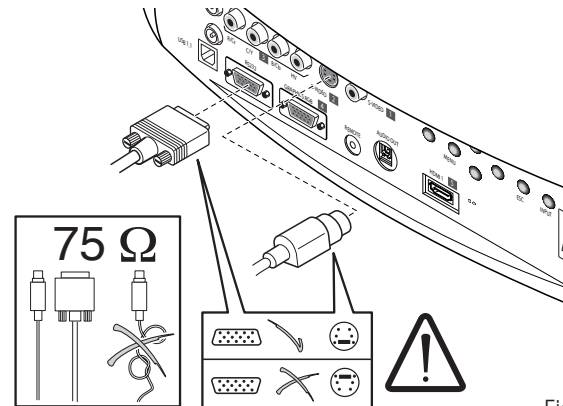

Fig. 15
- With exception of coaxial RCA/Phono type connectors, always double-check that the plug is inserted the correct way round to avoid damaging the plugs or the sockets on the projector (Fig. 15)